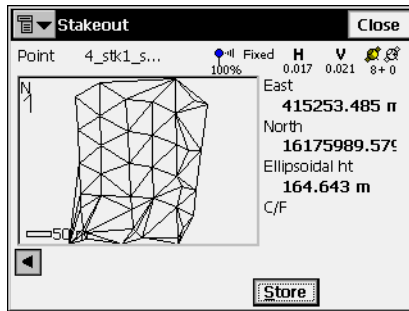

Figure 7-48. GPS Stakeout
- For GPS+: use the information on the *Stakeout* screen for finding the target. Tap **Store** after the position is close enough to the desired point (Figure 7-48).